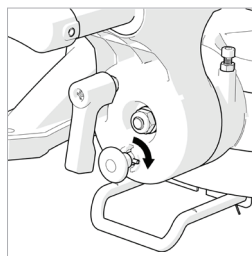

Fig. 35
- Turn the Pin through 1/4 of a turn (**Fig. 35**)